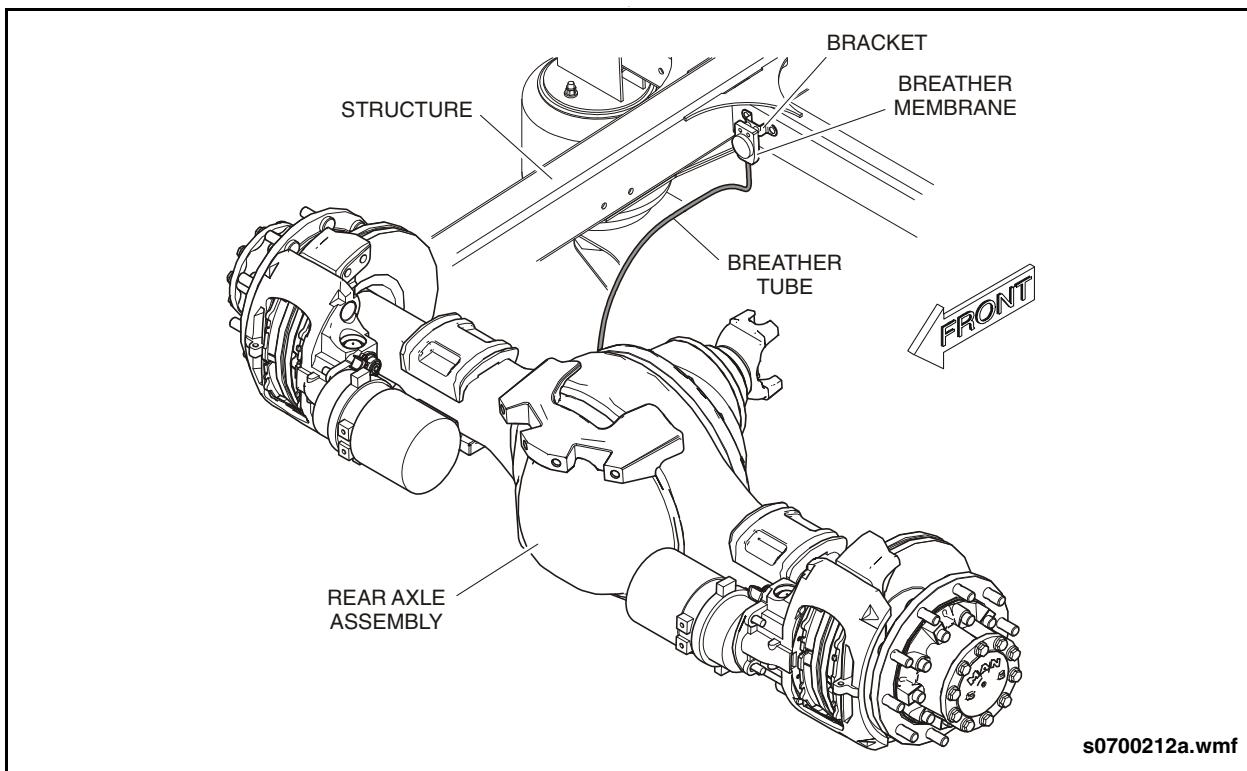

Fig. PM-28: Rear Axle Breather Inspection
- Check that the breather tube is securely attached to the elbow located on top of the differential housing and is attached to the breather membrane, located on the street-side suspension support. See "Fig. PM-28: Rear Axle Breather Inspection" on page 60.